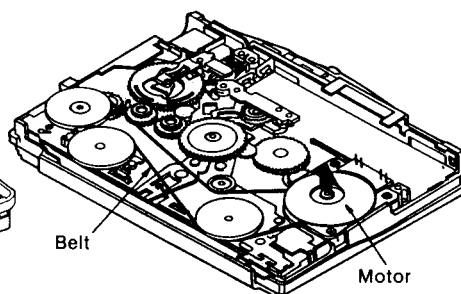

Fig. 9
3. Remove the motor in the direction of the arrow. (See Fig. 9.)